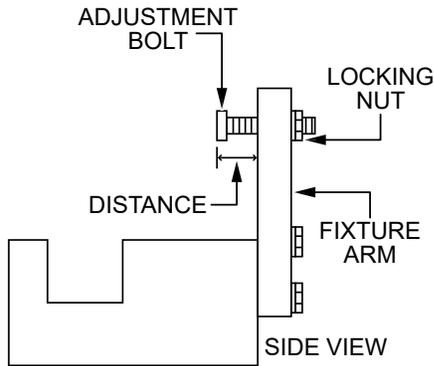

Figure 56. Trowel Arm Adjustment Tool (Side View)
Figure 56 illustrates a **trowel arm adjustment tool**. As a trowel arm is locked into the adjustment tool, the trowel arm bolt is adjusted to where it contacts a stop on the fixture. This will consistently adjust all of the trowel arms, keeping the finisher as flat and evenly pitched as possible.
3. Adjust the fixture **adjustment bolt distance** shown in Figure 56 to 0.15 in. (3.81 mm).